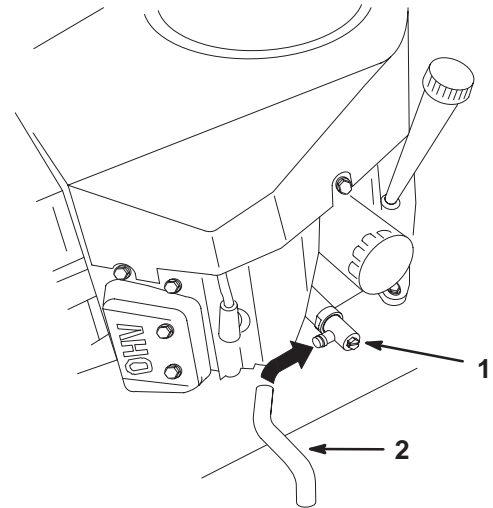

Figure 18
3. Slide the drain hose over the oil drain valve (Fig. 18).
4. Place a pan below the oil drain hose. Use either a flat screw driver, 3/8 inch (10 mm) wrench to open valve (Fig. 18).
5. Rotate valve end counterclockwise to open valve (Fig. 18).
6. When oil has drained completely, rotate valve end clockwise to close the valve (Fig. 18).